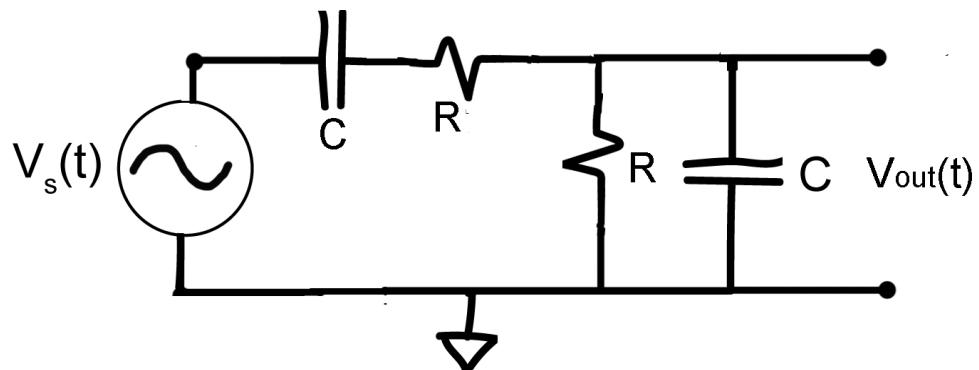
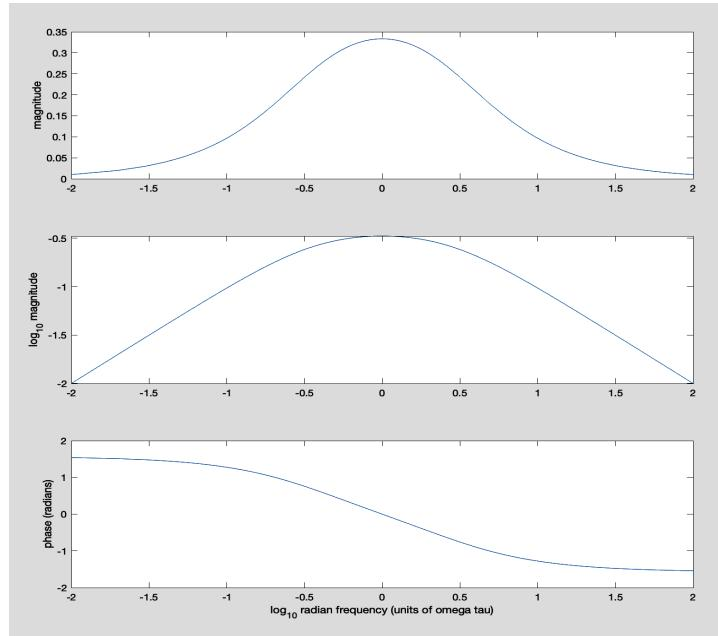

Figure 6.4
Figure 6.5
Build the circuit in Figure 6.4. The central frequency for this circuit is  $\omega = 1/RC$  radians/s (Figure 6.5). Choose a combination of R and C to make the central frequency equal to *roughly* 1000 Hz.
**Q.9. Calculate the expected response as predicted by the transfer function; refer to figure 6.5 as a normalized example. Recall that the output can be expressed in terms of voltage divider of complex impedance.**